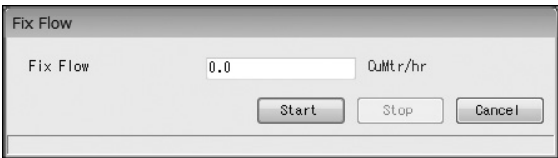

Fig. 3-57
- (1) Click "Diag/Service (T)" from the menu, and then click on "Fix Flow" from the drop-down list of "Loop Test".
- (2) The following window (Fig. 3-57) will be displayed. Set a simulated flow rate value and click "Start" button. By clicking "Cancel" button, "Fix Flow" will be exited.
By clicking "Cancel" button, the window will return to the window shown in Fig. 3-57.
- (6) By clicking "OK" button, the window will return to the window shown in Fig. 3-57. Click "Cancel" button to exit "Fix Flow".